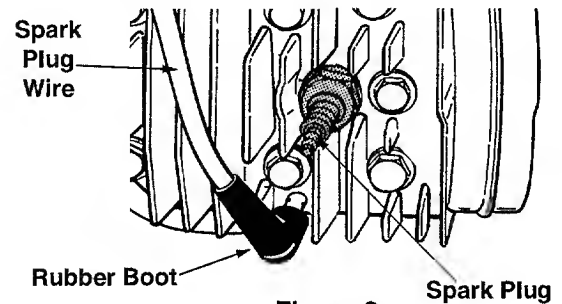

Figure 2
- Before setting up your lawn mower, disconnect the spark plug wire from the spark plug, and ground it against the engine. See Figure 2.